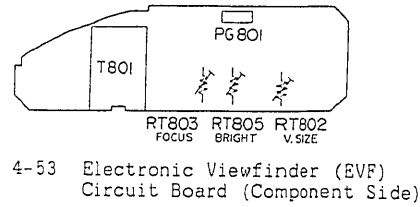

Fig. 4-53 Electronic Viewfinder (EVF) Circuit Board (Component Side)
(3) EVF Vertical Size Adjustment (Fig. 4-53)
(4) EVF Brightness Adjustment (Fig. 4-53)
(5) EVF Focus Adjustment (Fig. 4-53)